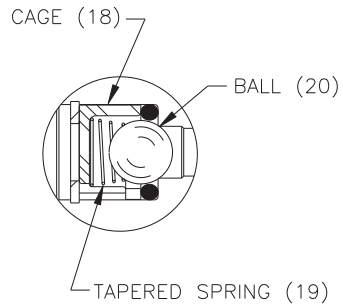

FIGURE 3
4. Remove spring (6) from housing (7).
5. Remove end cap (28) from housing (7). Spring (24) and piston assembly (11) may also come out of the housing bore. Remove spring (24) and piston assembly (11).
6. Remove o-ring (25), retainer (26), and seat (27) from end cap (28).
7. Remove cups (12 & 14) from piston (13). Remove retaining ring (23), stem assembly (16), and spring (15) from piston (13).
8. Remove retaining ring (17), cage (18), tapered spring (19), ball (20) and o-ring (21) from stem (22). Note direction of tapered spring (19) for reassembly. See Figure 3.
9. Remove spring (10) and retaining ring (9) from housing (7) bore.
10. Use a wooden dowel to push piston assembly (8) out of end cap (28) side of housing (7).
2. Install new piston assembly (8) in housing (7).
3. Install retaining ring (9) in housing (7).
4. Install new o-ring (21), new ball (20), new tapered spring (19), new cage (18), and new retaining ring (17) in stem (22). **NOTE: Be sure tapered spring (19) is properly aligned and in the correct position when cage (18) is installed. The small end of tapered spring (19) must be against ball (20). SEE FIGURE 3.**
5. Install spring (15), stem assembly (16), and new retaining ring (23) in piston (13).
6. Install new cups (12 & 14) on piston (13). Note the direction of cups (12 & 14).
7. Install new seat (27), new retainer (26), and new o-ring (25) on end cap (28). Torque retainer (26) 9.5-13.6 N·m (7-10 lb·ft).
8. Lubricate the threads of end cap (28). Install spring (10), piston assembly (11), spring (24), and end cap (28) in housing (7). Torque end cap (28) 54.2-67.8 N·m (40-50 lb·ft).
9. Install new cup (4) on piston (5). Note the direction of cup (4).
10. Install spring (6), piston assembly (5), and new retaining ring (3) in housing (7).
11. Install new boot (2) on housing (7) and push rod (1).